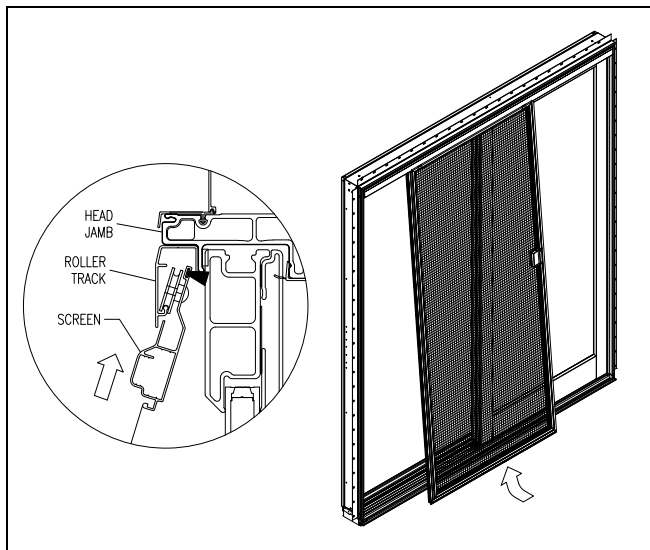

Figure 6
1. To remove the screen panel, start at the bottom corner and lift the screen panel guide up with your fingers or a stiff putty knife. Pull the guide off the screen sill track and work your way to the other end. See Figure 6.